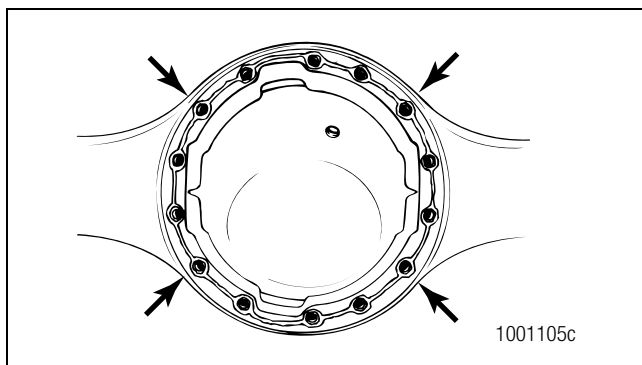

Figure 5.82
- Install nuts and washers or capscrews and washers, if equipped, into the four corner locations around the carrier and axle housing. Hand-tighten the fasteners. Figure 5.82.
- Carefully push the carrier into position. Tighten the four fasteners two or three turns each in a pattern opposite each other. Figure 5.82.